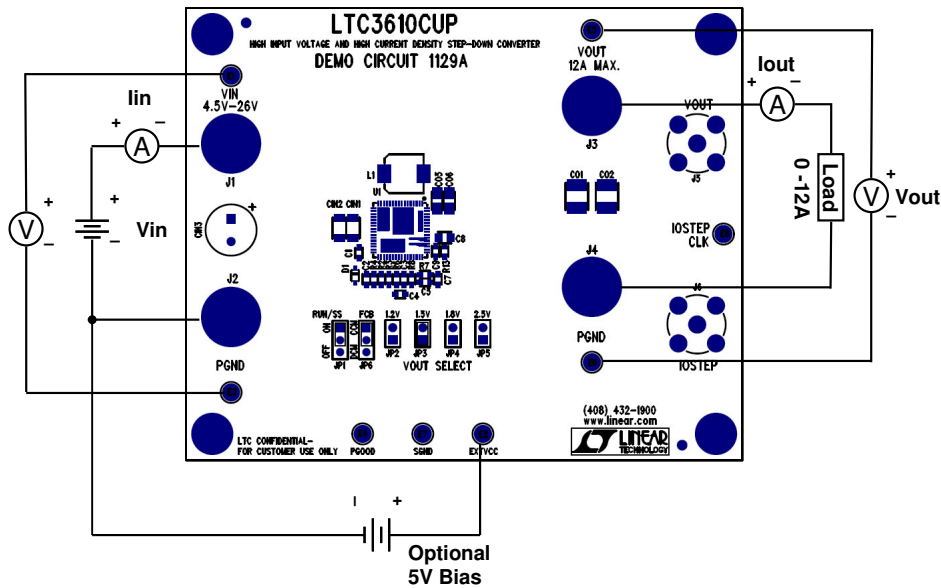

Figure 1. Test Setup of DC1129A (EXTVCC Bias Supply is Optional)
Demonstration circuit DC1129A is easy to set up to evaluate the performance of the LTC3610. Please refer to Figure 1 for proper measurement equipment setup and follow the procedure below:
2. With power off, connect the input power supply, load and meters as shown in Figure 1. Preset the load to 0A and Vin supply to be less than 24V.